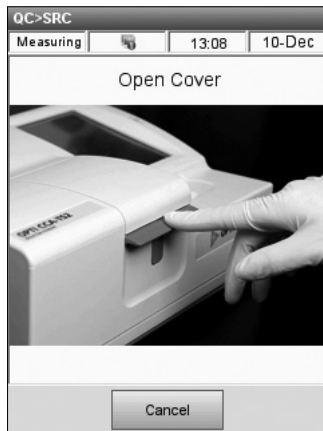

Fig. 4-5 Open Cover
5. Open the sample chamber cover by pressing down on the center of the red latch (Fig. 4-5).